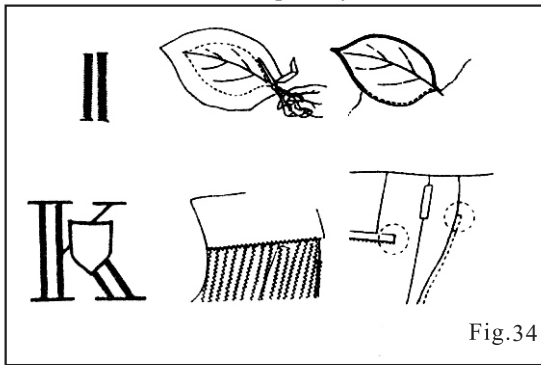

Fig.34
7. OTHER MODES OF PRACTICAL SEWING (Fig.34)